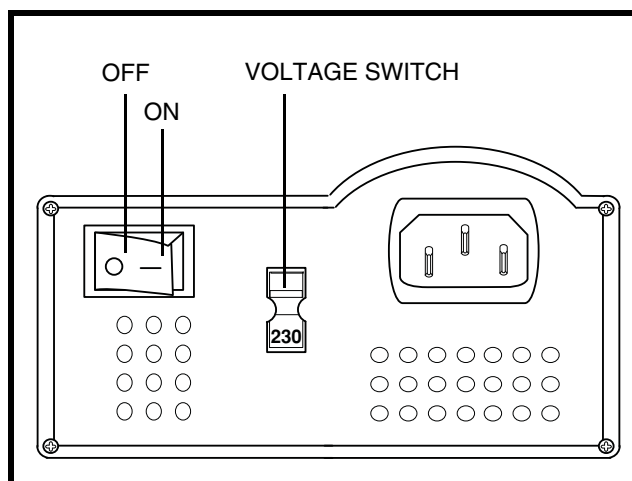

Figure 10. Charger On/Off and Voltage Switches
The off-board charger supplied with your scooter is equipped with a 115/230 voltage switch. Confirm that this switch is in the proper position for your locality. If you are not sure what the voltage is in your country, contact your local electricity provider before inserting the charger power lead plug into your electrical outlet. If the setting is incorrect, the charger will not function properly. Slide the voltage switch to the appropriate position. **See figure 10.**
4. Make sure that the charger's on/off switch is in the OFF position. **See figure 10.**